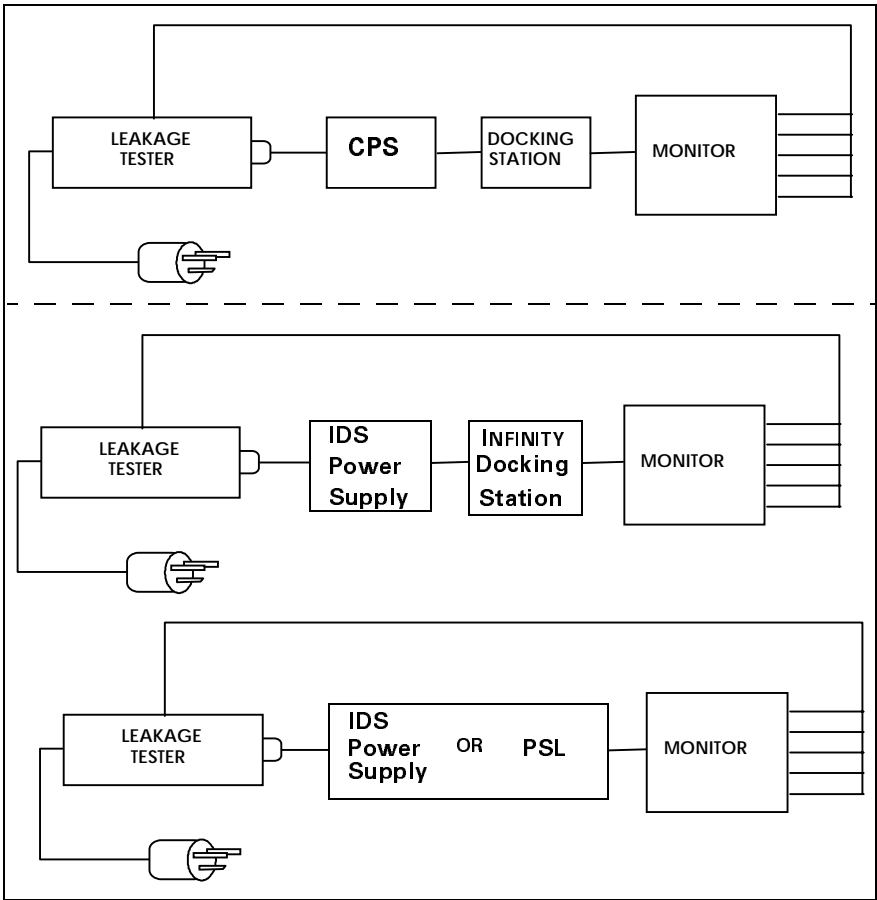

Figure 4-4 Leakage Current Test Setups
- 1) Perform leakage current tests with monitor on a docking station, and CPS, IDS Power Supply, or PSL plugged into leakage tester. See Figure 4-4.